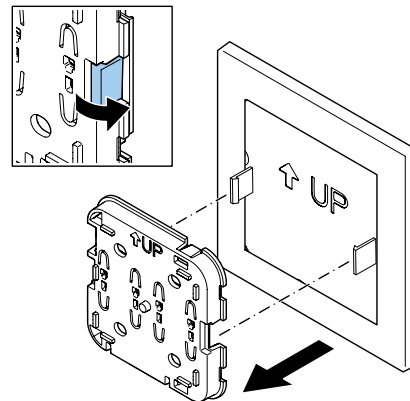

Figure 2 - loosen the clips and separate the unit from the mounting plate
2. Loosen the clips and separate the unit from the mounting plate (fig. 2)